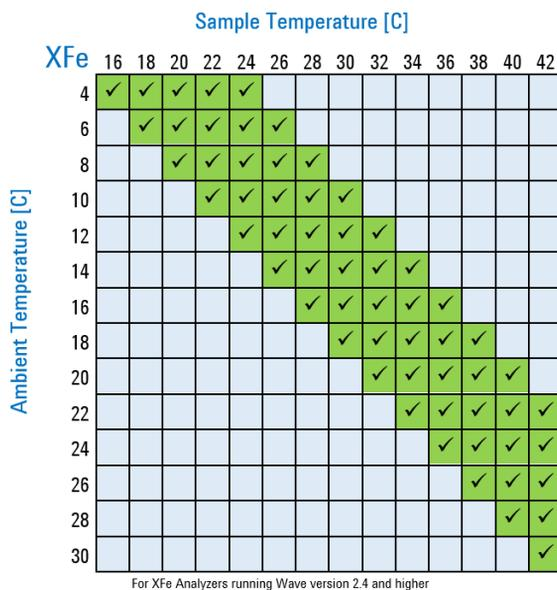

Figure 10. Temperature chart
Agilent Seahorse XFe Analyzers have been validated to deliver desired target temperatures in the range of 16-42 °C, provided the ambient room temperature is 12-20 °C below the target temperature, and in the validated operational room temperature range of 4-30 °C. To understand the relationship between the desired sample temperature and required ambient temperature, see the temperature chart in **Figure 10**.
- 2 Ensure your ambient conditions support the desired target temperature (12-20 °C above ambient). (See the temperature chart shown in **Figure 10** on page 28.)